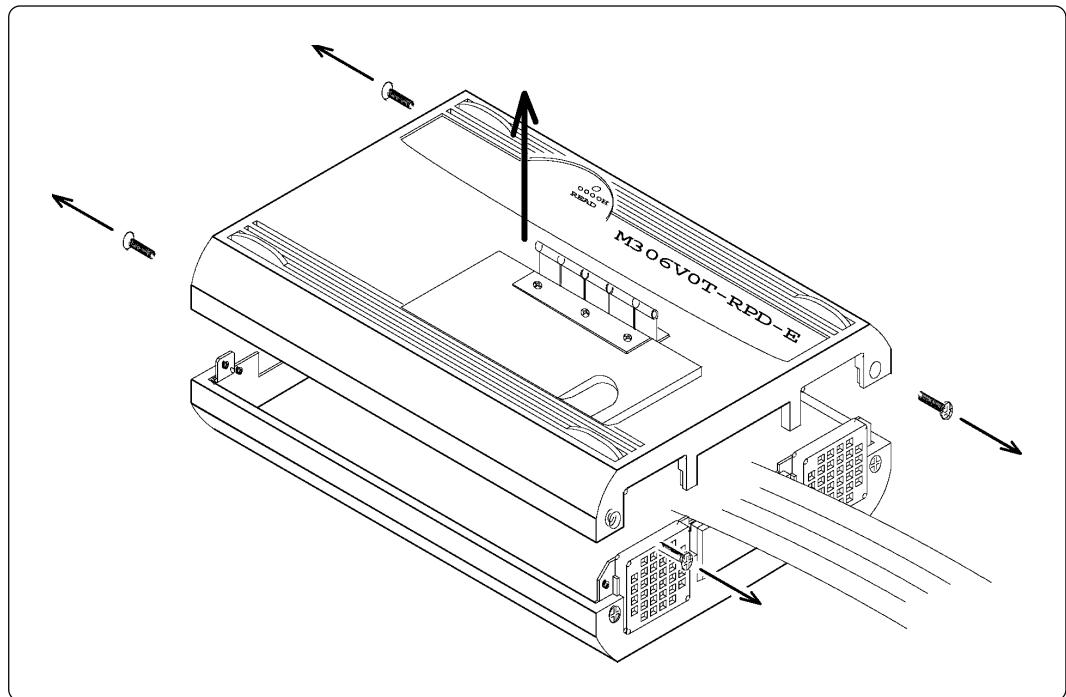

Figure 4.12 Removing M306V0T-RPD-E cover
- (1) You must remove the cover of the M306V0T-RPD-E in order to set the switches. To do so, remove the four screws holding the top cover. There are two screws on each side (see Figure 4.12). Be sure to turn OFF the power before attempting to change the switch settings. If the power is ON, you may damage the circuits.